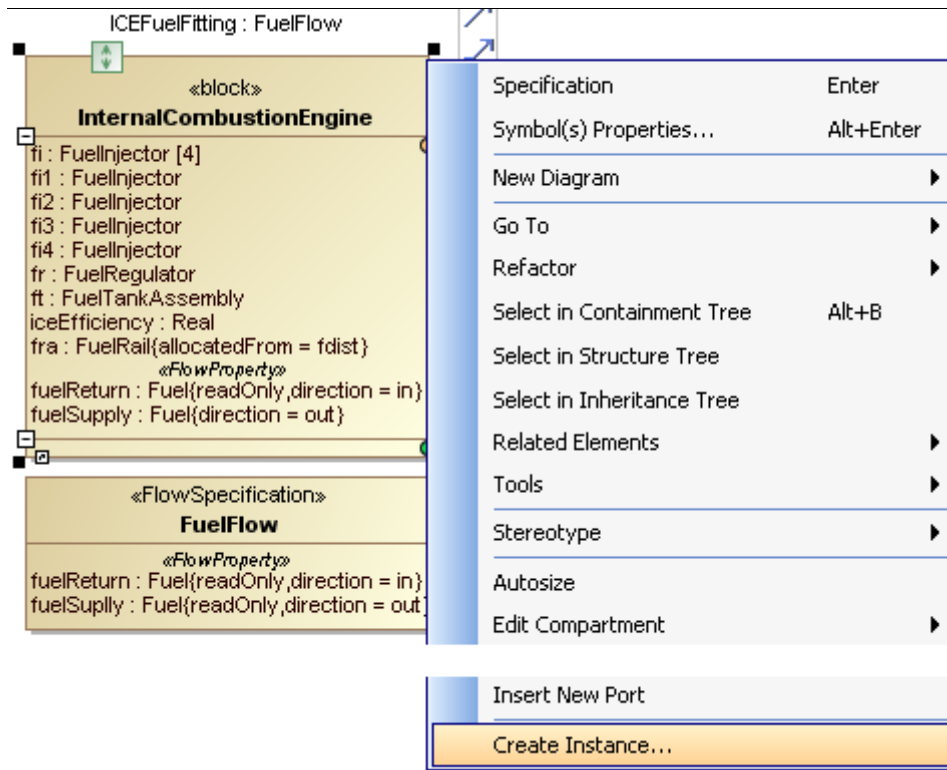
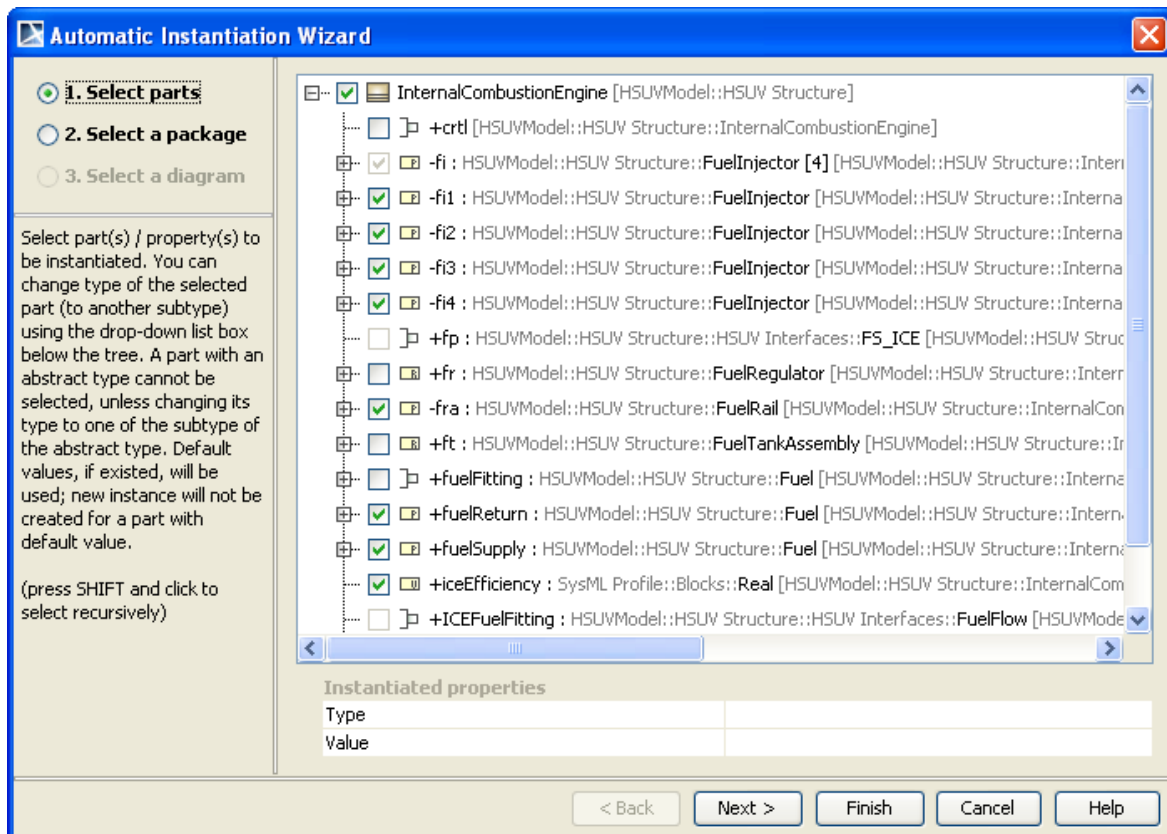

Figure 24 -- Create Instance... Shortcut Menu
Figure 25 -- Automatic Instantiation Wizard - Step 1.Select Parts
1. Right-click a Block and select **Create Instance...** on the shortcut menu (Figure 24). The **Automatic Instantiation Wizard** dialog will open (Figure 25). Note that SysML sample projects are available in the `<md.install.dir>/samples/SysML` directory. The **hybrid sport utility vehicle.mdzip** sample is used to demonstrate how this feature works.
NOTE The **Automatic Instantiation Wizard** dialog contains three steps: (i) Select parts, (ii) Select a package, and (iii) Select a diagram (Figure 25).